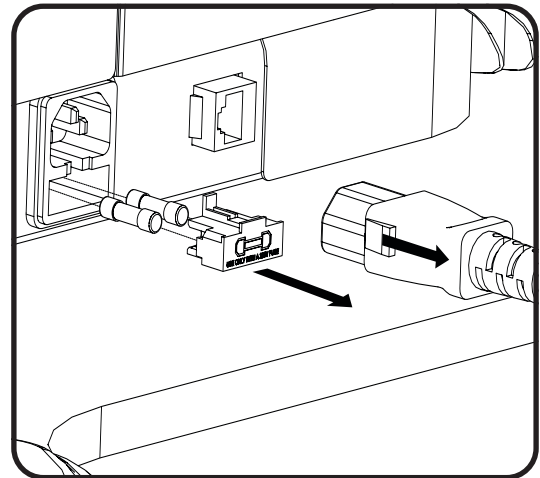

Figure 1
1. See Figure 1. Pull back on the red tabs of the power cord at the base of the chair to remove the power cord.
4. Insert new fuse(s) into the fuse drawer with same size fuse (5mm x 20mm 4 Amp 250V Time-Delay Glass tube type) removed in step 3 (See Figure 1).